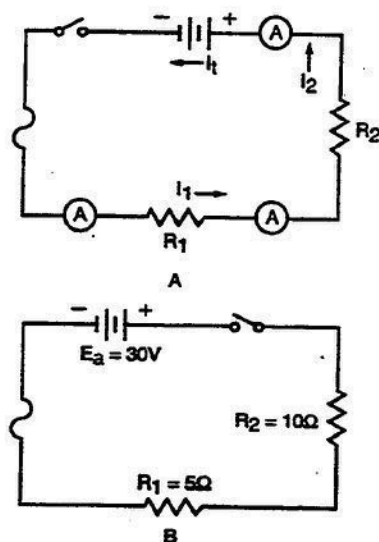

Figure 2-21. Series DC circuits.
**Current flow.** If we close the switch in figure 2-21,A, current flows. The three ammeters show how much current is flowing at various points in the circuit. From what we've already learned, we know that in a series circuit, current is the same at all points throughout the circuit. Therefore, all the ammeters read the same value.
Notice, we have not said how much current is flowing. We have merely said that whatever the current is, it is the same everywhere in the circuit. Let us solve the simple circuit shown in the B portion of figure 2-21. In order to find the total current ( $I_t$ ), we must first find the total resistance. Total resistance ( $R_t$ ) in a series circuit equals the sum of the individual resistances.
In our simple circuit of figure 2-21, we know that  $E_a$  is 30 volts. Thus, the voltage dropped across  $R_1$  and the voltage dropped across  $R_2$  add up to 30 volts. By using Ohm's law, we can find the exact voltage drop across each resistor.
Changing the applied voltage has a definite effect on the circuit. By using Ohm's law, you can see a direct relationship between voltage and current. Taking our simple circuit in figure 2-21 again, assume the voltage is doubled and resistance is held constant:
Kirchhoff's second law states that the applied voltage is equal to the sum of the individual voltage drops in a closed circuit. Refer to our discussion for figure 2-21 and find the application of Kirchhoff's second law. The applied voltage was 30 volts. We found the voltage drop across  $R_1$  to be 10 volts and the voltage drop across  $R_2$  to be 20 volts. The total voltage drop, then, was 30 volts, the same as the applied voltage.